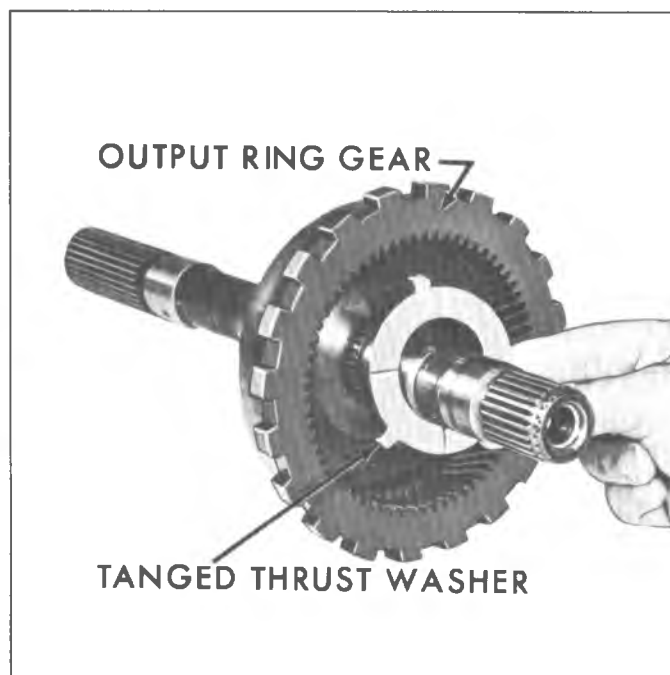

Fig. 43M--Removing Output Ring Gear Tanged Thrust Washer
19. Remove reaction carrier to output ring gear tanged (front) thrust washer (fig. 43M).